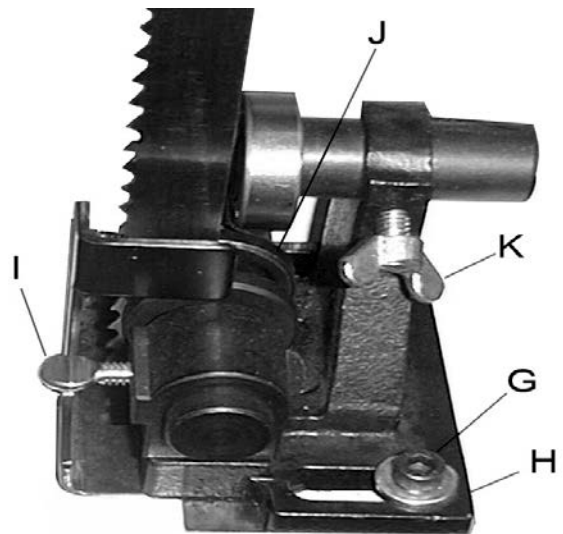

Figure 4
2. The blade guard has been removed in Figure 4 for photo purposes only.
3. Loosen the socket head cap screws (G, Fig. 4) and position the blade guide assembly (H, Fig. 4) so that the guides rest just behind the gullet of the blade teeth. Tighten the socket head cap screws.
4. Loosen thumb screw (I, Fig. 4). Adjust guides (J, Fig. 4) so they rest lightly against the blade. Do not force the guide against the side of the blade. Tighten thumb screw.
5. Adjust the blade support bearing so that it is 0.003" away from the back of the blade, about the thickness of a piece of paper. To make this adjustment loosen wing nut (K, Fig. 4) and slide the bearing and bearing post into position. Tighten wing nut.
**Note:** Blade support bearing should be adjusted so that the back edge of the blade overlaps the front face of the ball bearing by approximately 1/8". If adjustment is needed loosen wing nut (K, Fig. 4) and turn the bearing shaft. Tighten wing nut.